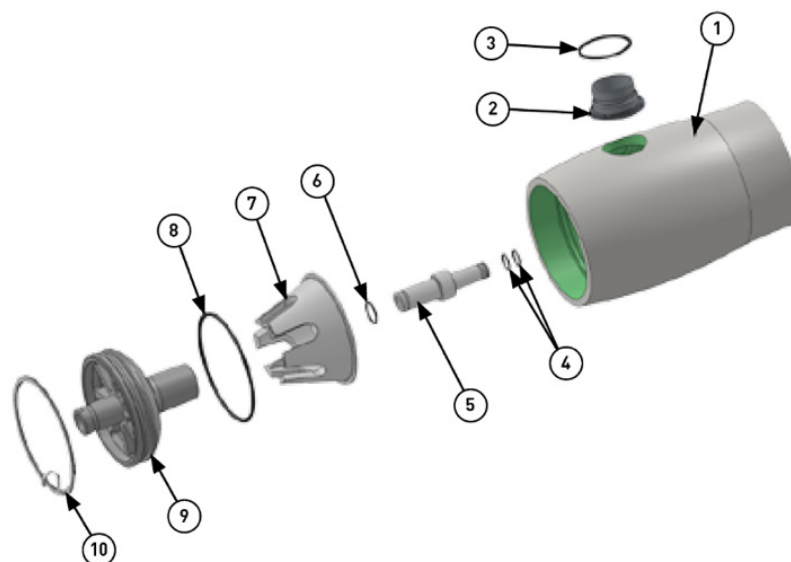

Figure 8
- Ensure the components 4-9 in **Figure 8** at the bottom of the housing have not been misaligned.